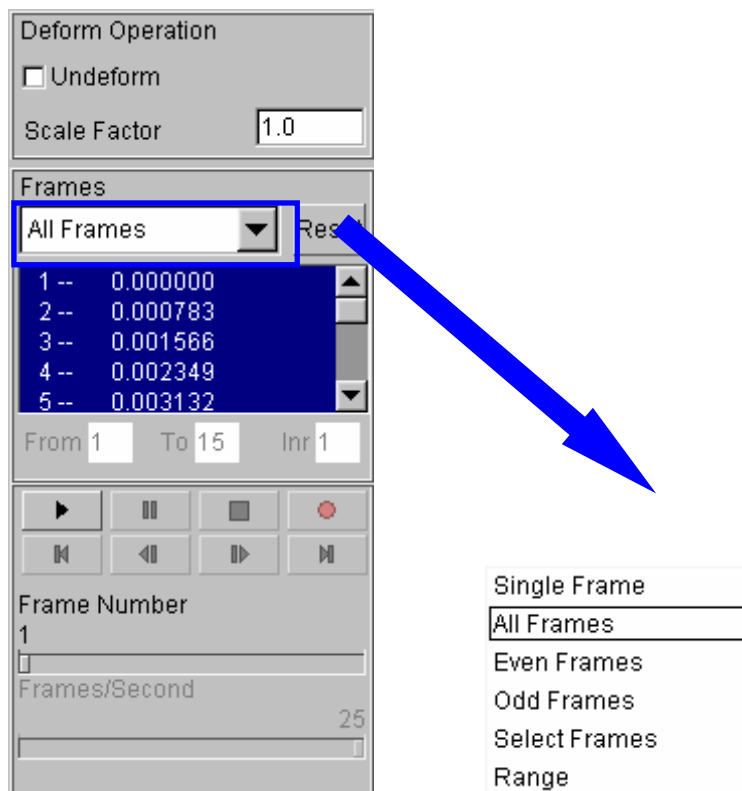

Figure 3.48 Animating deformation dialog box
1. The default **Plot State** is **Deformation**. In the **Frame** dialog, select **All Frames** and press **Play** button to animate the results. See Figure 3.48.